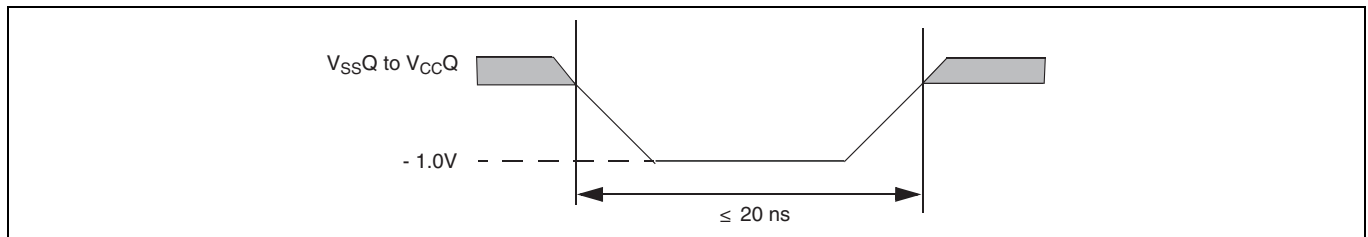
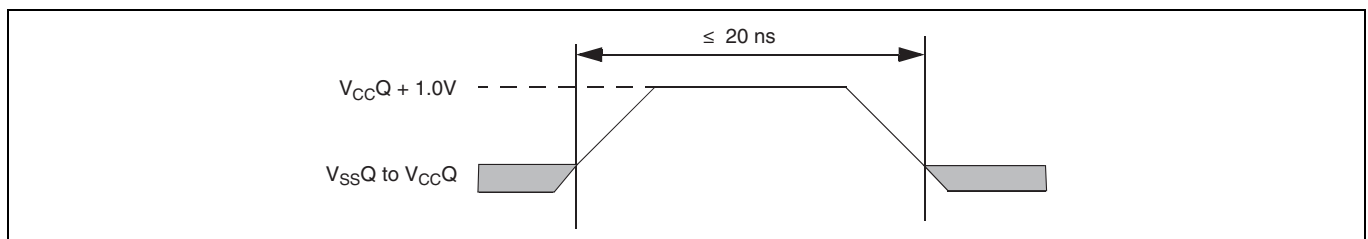

Figure 19 Maximum negative overshoot waveform
Figure 20 Maximum positive overshoot waveform
51. Minimum DC voltage on input or I/O signal is -1.0 V. During voltage transitions, input or I/O signals may undershoot V_{SS} to -1.0 V for periods of up to 20 ns. See **Figure 19**. Maximum DC voltage on input or I/O signals is V_{CC} + 1.0 V. During voltage transitions, input or I/O signals may overshoot to V_{CC} + 1.0 V for periods up to 20 ns. See **Figure 20**.